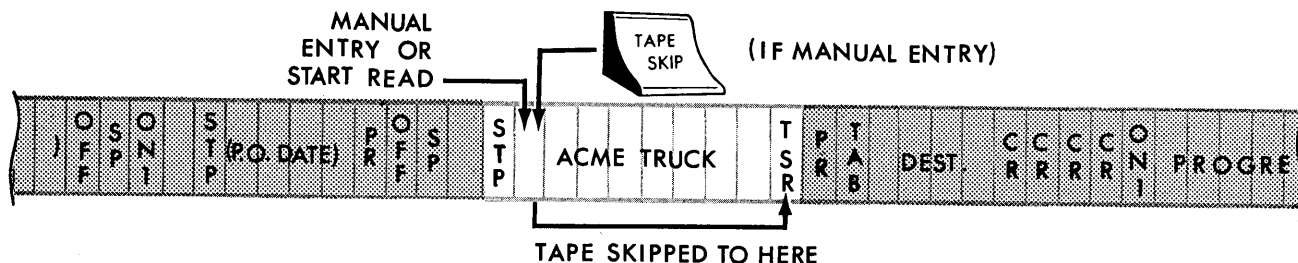

Figure 47. Tape Skip Operation.
**D** The ship via information is not to be punched into the select tape. In the vendor card, the OFF code turns off the punch. On the form there is a space between purchase order date and ship via. Here, the operator has the ability to make a choice of shipping methods. A STP code prior to this information marks the point of decision. If the goods are to be shipped via Acme Truck, the operator touches START READ. If they are to be shipped by any other method, the operator enters that data, and touches TAPE SKIP, to eliminate "Acme Truck" from the vendor card. Figure 47 shows this portion of the programming isolated for clarity. The TSR (Tape Skip Restore) code returns the Flexowriter to a normal read condition, if TAPE SKIP is used. It has no function in a normal read condition.